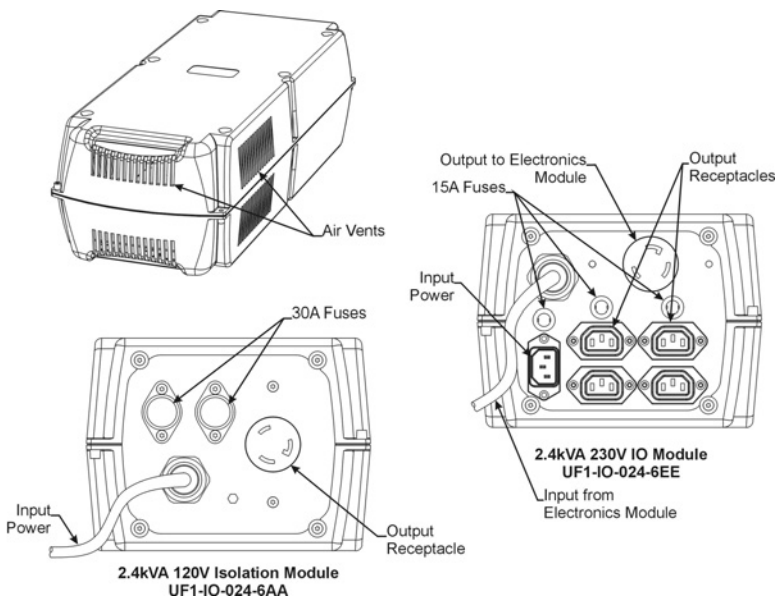

Figure 1
1. The power cord from the electronics module must be plugged into the output receptacle on the back of the transformer module (see figure 1).
2. The input power cord from the transformer module must be plugged into a power source (see figure 1).
1. Plug the output power cord from the transformer module into one of the output receptacles on the back of the electronics module (in the case of the 2.4kVA model the cord can only be plugged into the 20A outlet, see figure 1).
2. Next, plug the power cord from the electronics module into the output receptacle on the back of the transformer module (see figure 1).
3. The input power cord from the transformer module must be plugged into a power source (see figure 1).